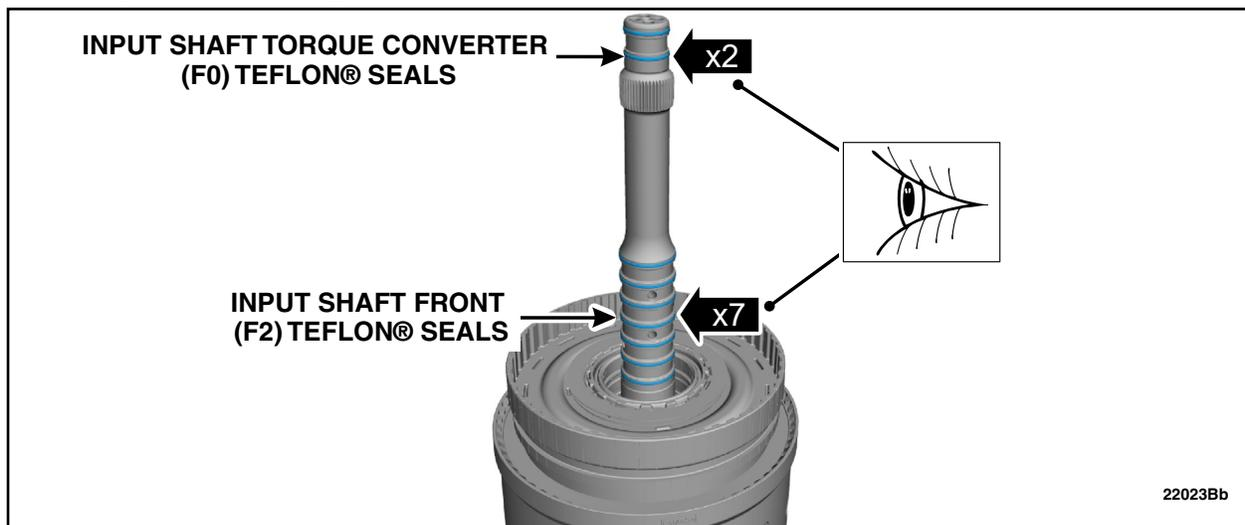

FIGURE 37
42. Inspect the input shaft torque converter (F0) Teflon® seals. Replace the input shaft torque converter (F0) Teflon® seals if any damage is found. See Figure 37.
43. Inspect the input shaft front (F2) Teflon® seals. Replace the input shaft front (F2) Teflon® seals if any damage is found. See Figure 37.